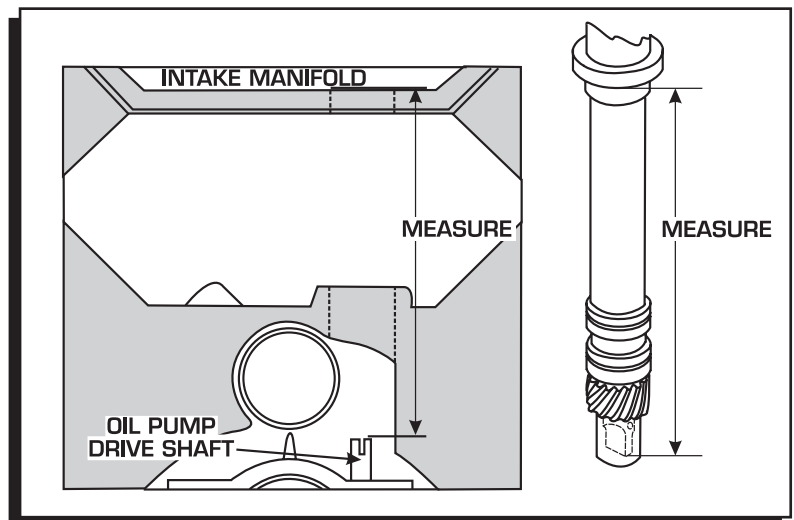

Figure 9 Measuring Oil Pump Shaft Overlap.
1. Measure the distance between the base of the slip collar to the tip of the distributor shaft (Figure 9).
2. Using a straight edge, measure the distance from the intake manifold distributor flange to the top of the oil pump shaft (Figure 9).